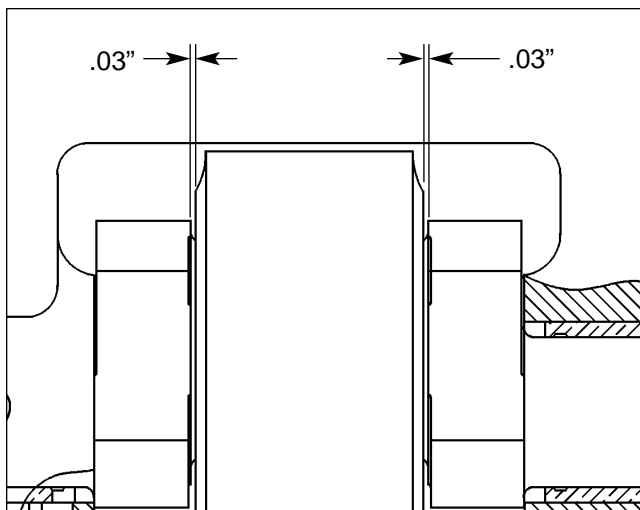

Figure 11F. Checking connection to crankshaft clearance.
10. Check the clearance between the connection and the crankshaft. (See Figure 11F.) Clearance on each side of the connection should be .03" (.762 mm) nominal \pm .01" (.254 mm). Adjust the gibs until proper clearance is achieved, then recheck slide parallelism.